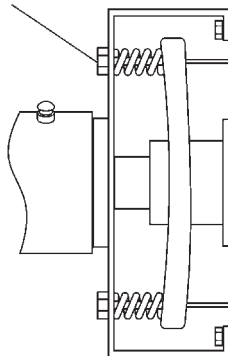

Figure 27. Drum Seal Adjusting Nuts
2. As the seals naturally wear, material will seep from the drum head. Tighten the adjusting nuts equally until a slight pressure is felt (Figure 27). The seals are now tight. This procedure should be done periodically as the seals leak.